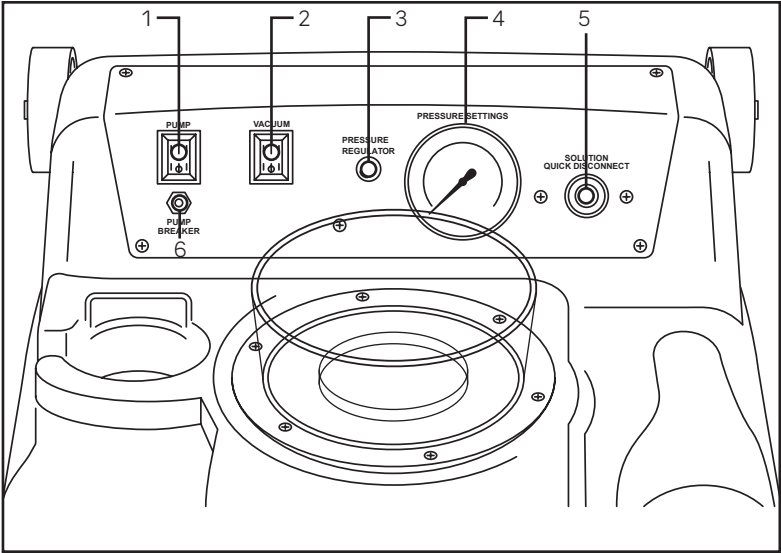

Fig. 1
7. Turn the pump switch (#1 Fig. 1) to the "ON" position. While the pump is on and water is not flowing, ensure the pump pressure reads 500 psi.
9. Turn the vacuum switch (#2 Fig. 1) to the "ON" position to begin cleaning.
10. With the solution line attached to the spray wand and the machine (#5 Fig. 1), prime the pump by squeezing the trigger on the spray wand and releasing the water (hold wand tip over solution tank to put water back into solution tank). This will get any air out of the solution line.
11. Using the pressure adjustment (#3 on Fig. 1) adjust the pressure of the unit to suit your cleaning task. The non-flowing pump pressure must be set at 500 psi (working pressure of 180-200 psi) for chemical application on spray gun low-pressure mode. Chemical will not mix if the working pressure is not 180-200 psi (static pump pressure 500 psi).
5. Turn the pump switch (#1 Fig. 1) to the "ON" position. For mixing operation, the pressure must be set to 500 psi.
6. Turn the vacuum switch (#2 Fig. 1) to the "ON" position to begin cleaning.
7. With the solution line attached to the wand and the machine (#5 Fig. 1), prime the pump by squeezing the trigger on the wand and releasing the water (hold wand tip over solution tank to put water back into solution tank). This will get any air out of the solution line.
8. Using the pressure adjustment (#3 on Fig. 1) adjust the pressure of the unit to suit your cleaning task. The non-flowing pump pressure must be set at 500 psi (working pressure of 180-200 psi) for chemical application on spray gun low-pressure mode. Chemical will not mix if the working pressure is not 180-200 psi (static pump pressure 500 psi).